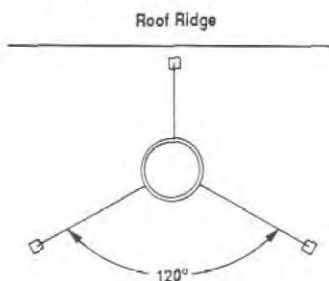

Figure 34
Note: If chimney extends more than 8' (2.4m) above roof surface, guy wires are also recommended. Use three (3) guy wires, attach to locking band assembly, extend and secure to roof in a triangular pattern (Figure 34). Guy wires are not supplied by Superior.